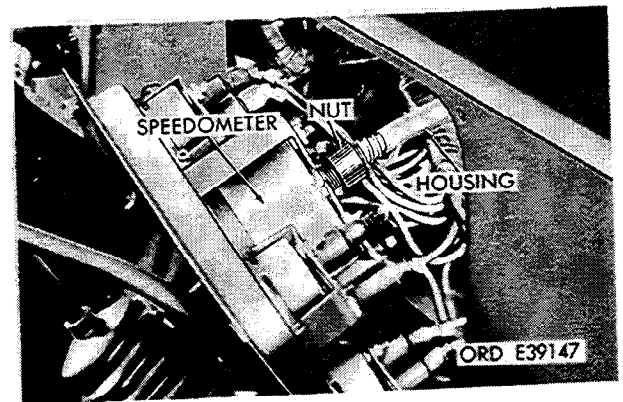

Figure 2-234. Disconnect speedometer cable.
(20) Unscrew nut securing speedometer cable housing to speedometer (fig. 2-234).
(18) Pull instrument cluster assembly away from dash panel, and disconnect speedometer cable nut and its housing from speedometer gage (fig. 2-234).